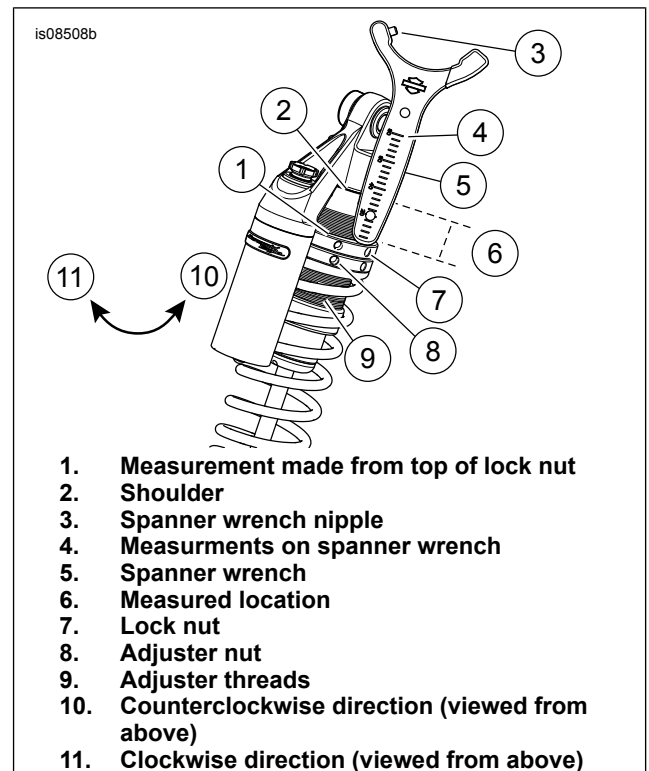

Figure 4. Preload Adjustment
See Figure 4, item 6. The minimum distance is 30 mm (1.18 in) and maximum distance is 54 mm (2.12 in).
1. Clean the adjuster threads (9).
2. See Figure 4. Loosen adjuster nut and locknut:
- a. Place spanner wrench nipple (3) in hole of adjuster nut (8).
- b. Rotate in direction (11) to separate the two nuts.
- a. Measure location by placing the bottom of the spanner wrench (5) on top of the locknut (1).
- b. Read the measurement on the spanner wrench (6) from the top of the locknut to the shoulder (2).
- d. Rotate lock (7) nut to desired location (6). If necessary, rotate adjuster nut (8) down to make room for locknut.
6. Locking adjuster nut (8) and locknut (7) in position: